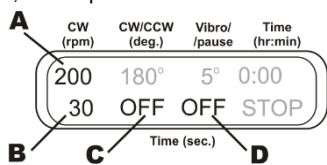

Figure 2.
- 6.9.1. **Rotational motion.** Set the speed (40-1000 rpm, fig. 2/A) and time (1-250 s, fig. 2/B) of rotational motion. Turn off reciprocal and vibro motions by setting their motion times to zero (indications OFF, fig. 2/C and 2/D).